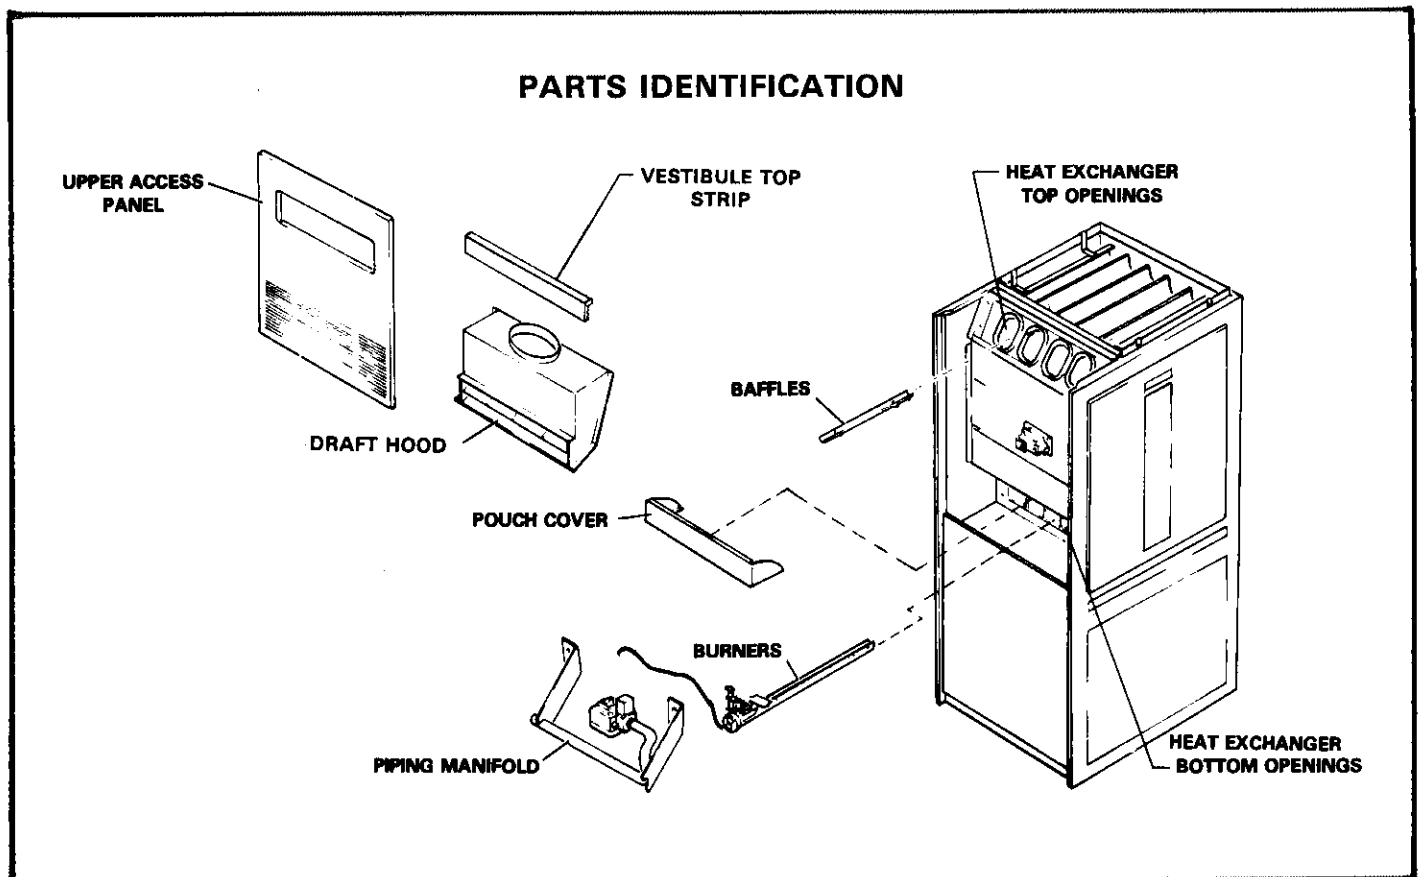

FIGURE 21
- 1 - Turn off both electrical and gas power supplies to the furnace. (Refer to figure 21 for parts identification for disassembly and reassembly procedures.)